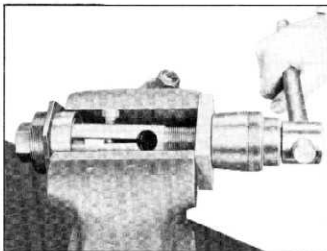

Fig. 12—Removing Mainshaft Bearing Cup
2. Tighten split sleeve expander bolt to anchor flange behind bearing cup; then, tighten puller nut (fig. 12) to remove cup.